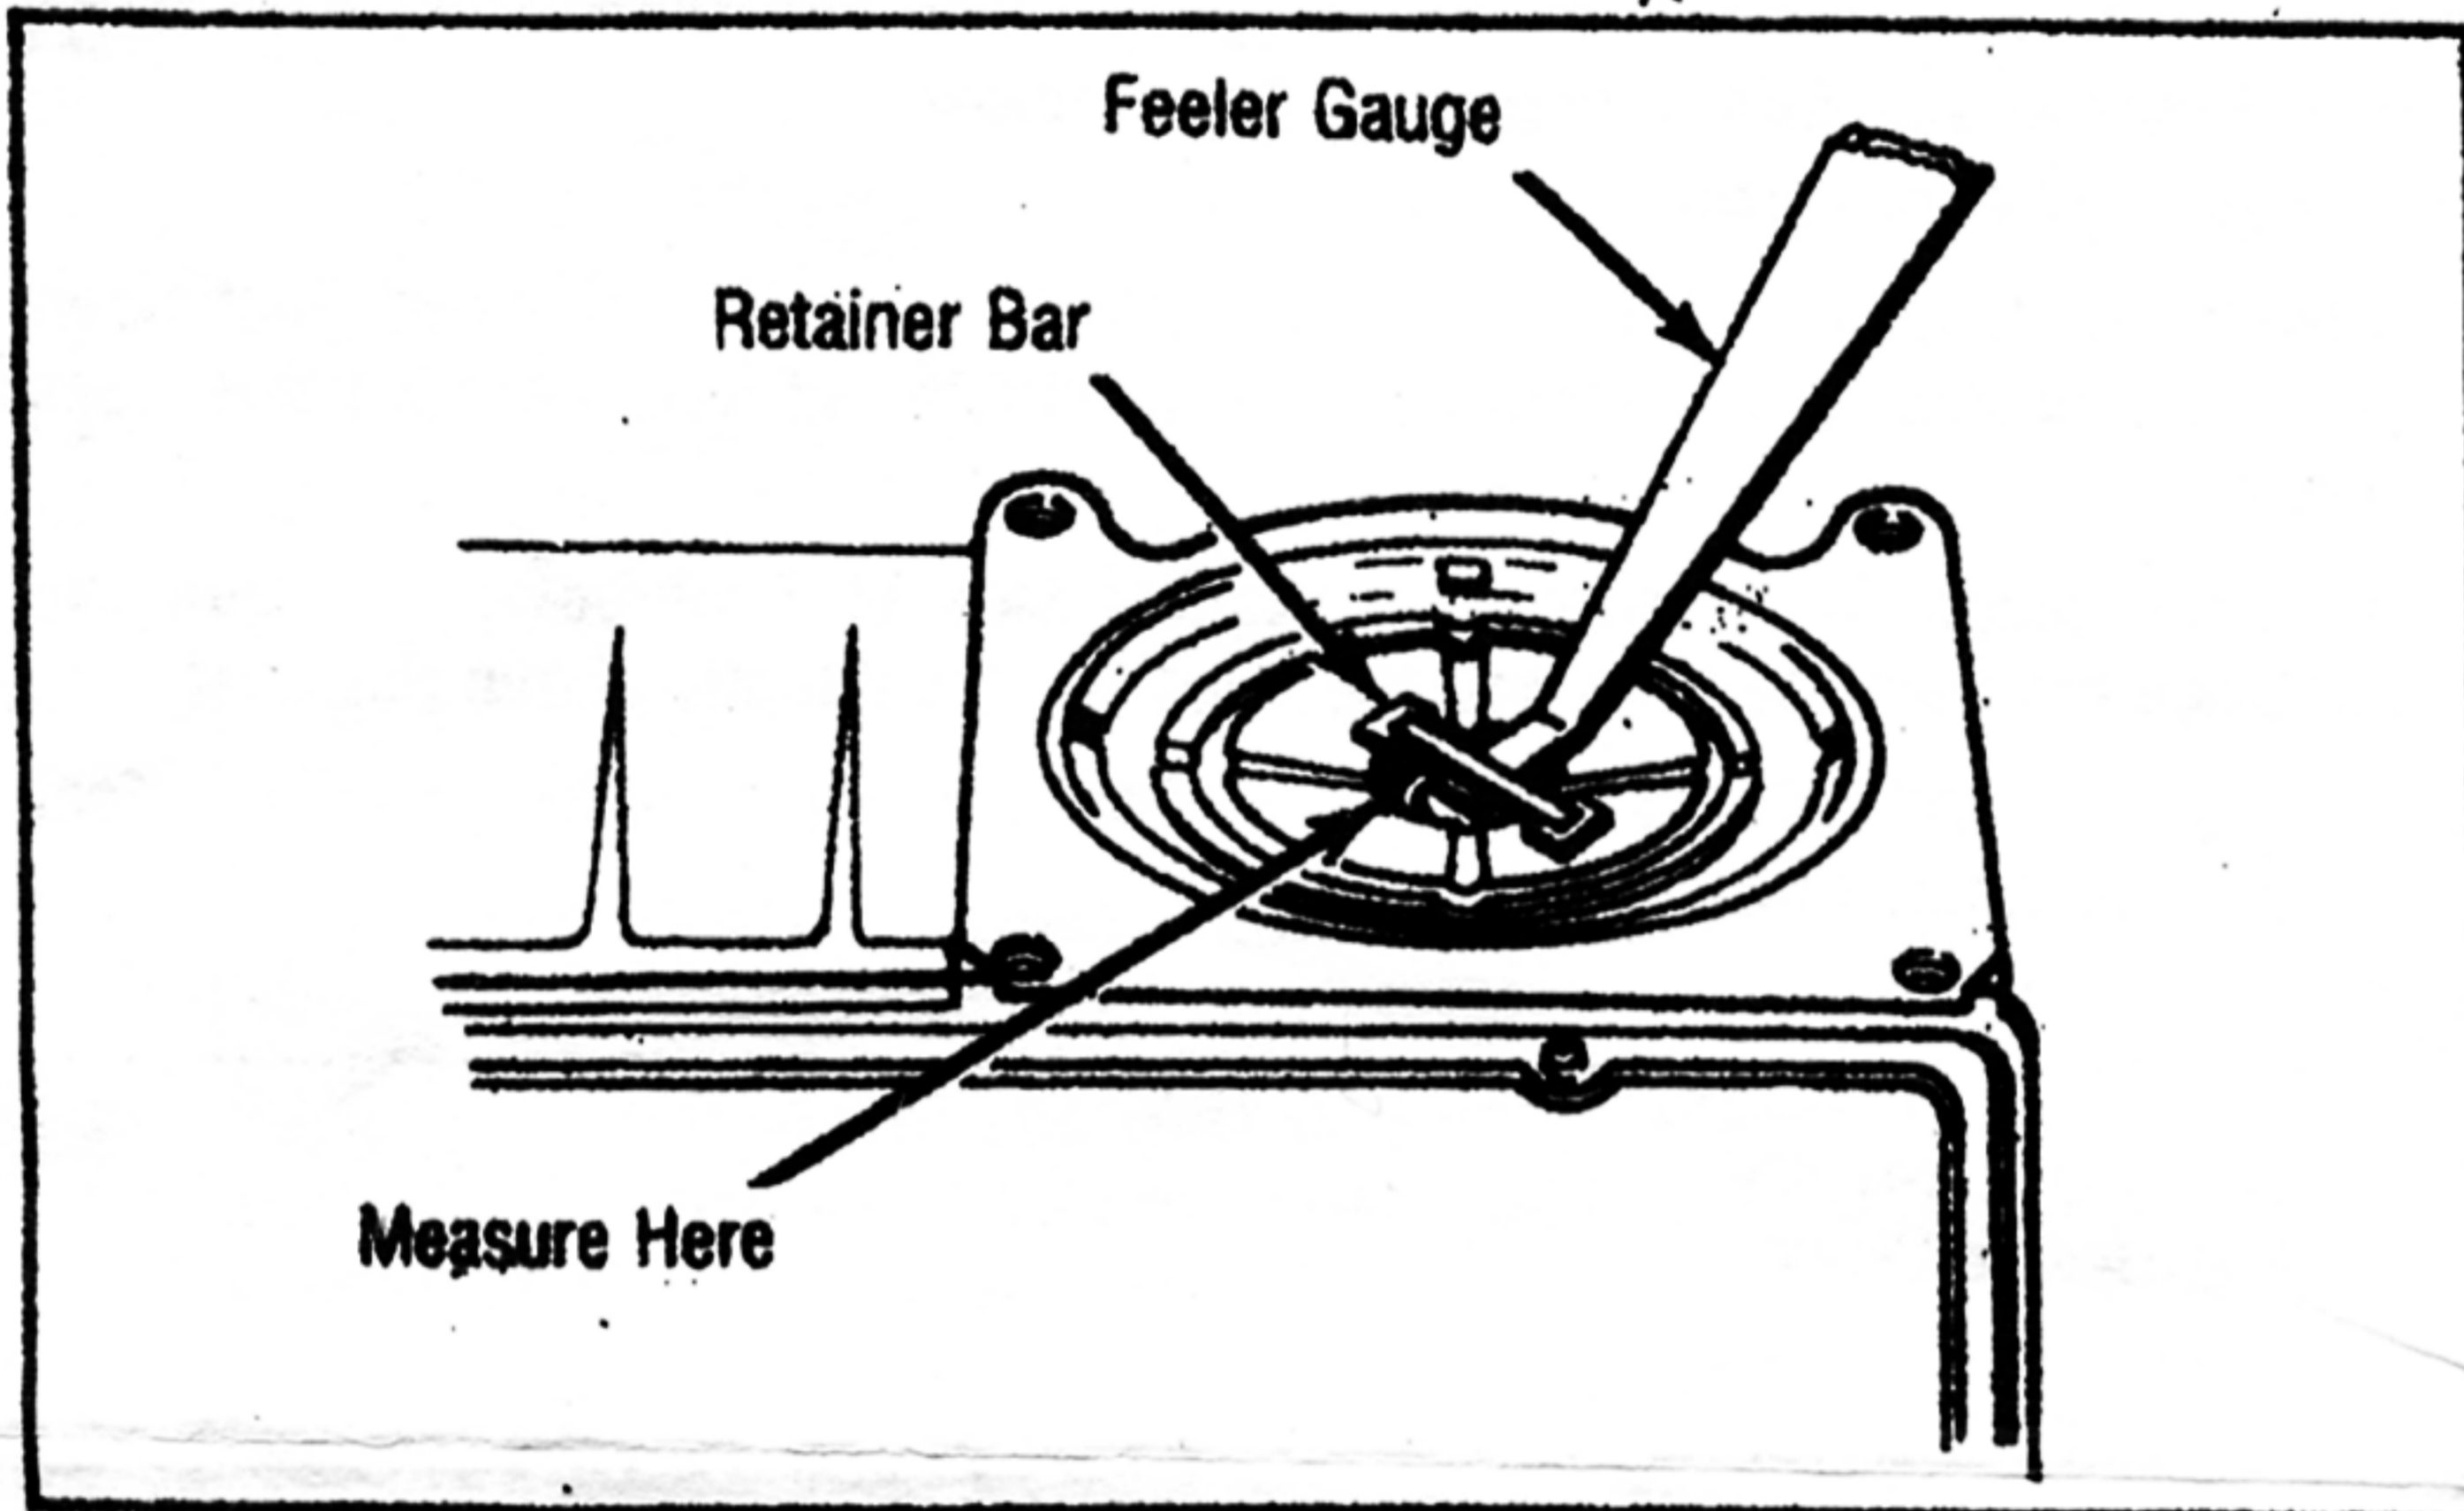

Fig. 5 Accelerator Pump Inlet Check Ball Clearance (Models With Check Ball Retainer Bar Only)
- Remove float bowl and turn upside down. Measure specified clearance between check ball and retainer bar with a feeler gauge. Specified clearance, for all models, is .011-.015". See Fig. 5.